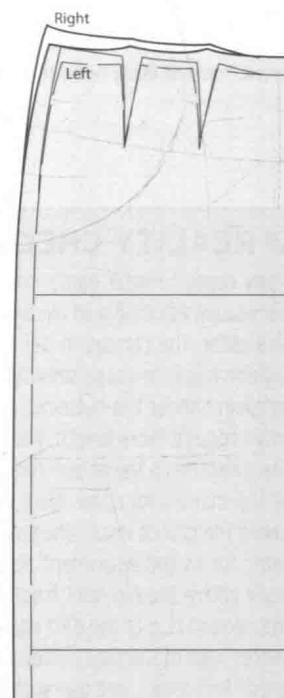

FIGURE 6.41 On asymmetric alterations, waist dart tips remain the same height from the floor.
- Ensure that the dart tips on both sides of a front or back pattern are kept the same height from the floor (see Figure 6.41).